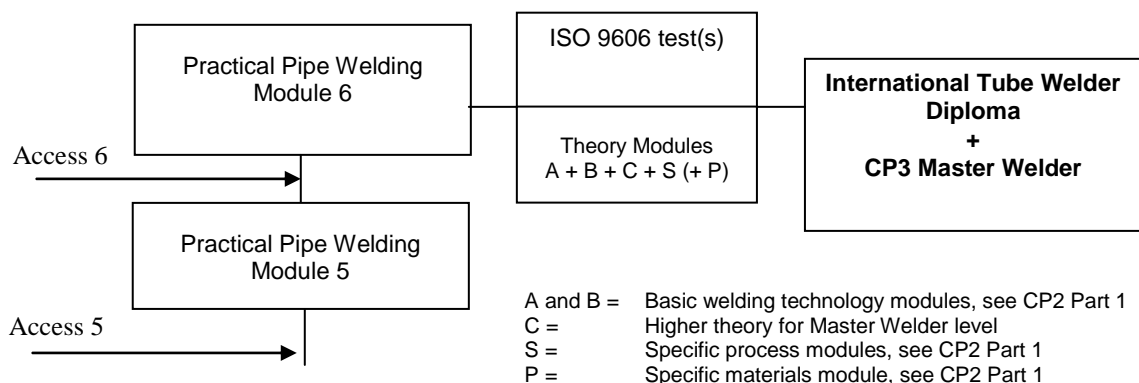

Figure 1 The overall structure of the training and examination under CP3.
The route to achieving a qualification under CP3 is shown in Figure 1. It can be seen from Figure 1 that there is a direct link between CP3 and the International Tube Welder qualification under the International Institute of Welding (IIW) scheme¹. Therefore the outcome from the CP3 programme is both the NWTS and the IIW qualification. The latter ensures that the welder's knowledge and skill is recognised throughout the world.
- To perform the practical examinations that are defined in this Guideline for the level of the IW Diploma that the candidate is applying for, including the lower levels examinations, See Fig 1